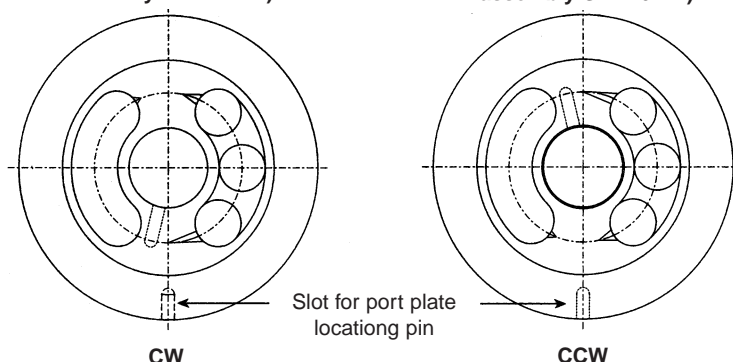

FIGURE 2
See Figure 3. Install port plate (14-2) on port block, engaging pin (16). Insure that correct barrel and port plate assembly is being used for shaft rotation specified. **See Figure 2.**